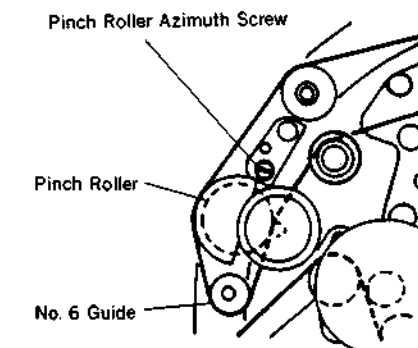

Fig. 12
(9) While adjusting the waveform at the rising edge of the playback, turn the azimuth screw of the Pinch Roller clockwise about 5 degrees step. Then check the rising edge of waveform. (fig. 12)